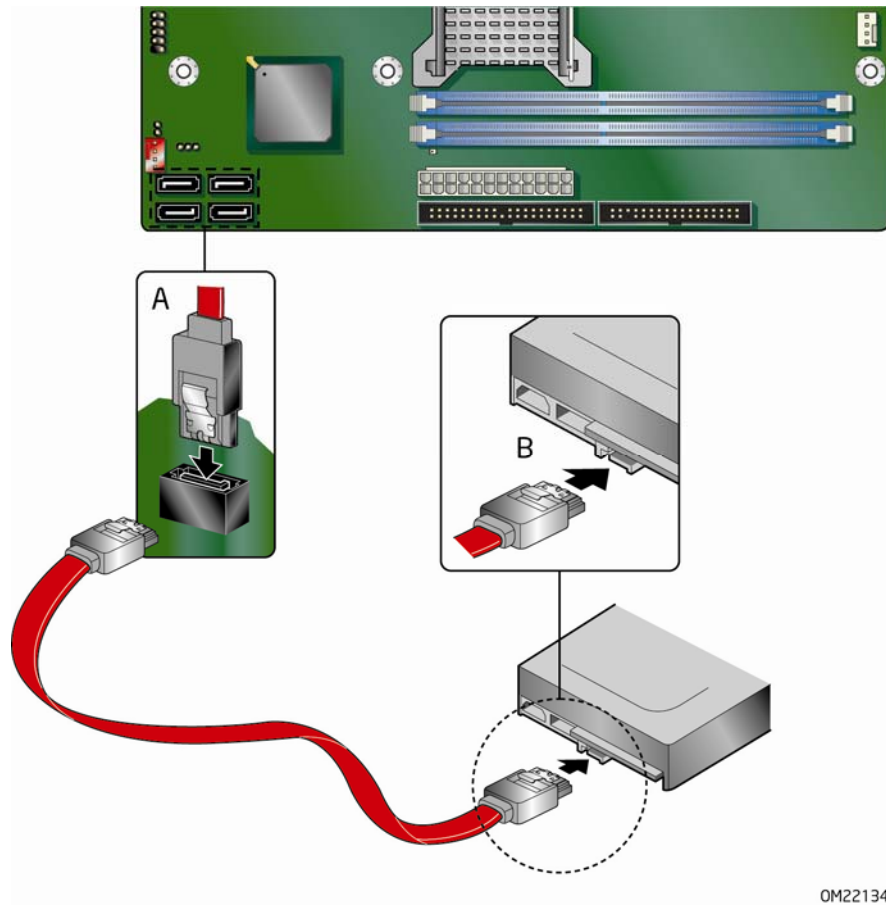

Figure 19. Connecting a Serial ATA Cable
2. Attach one end the SATA cable to one of the SATA connectors on the board (Figure 19, A).
3. Attach the other end of the SATA cable to the SATA drive (Figure 19, B).